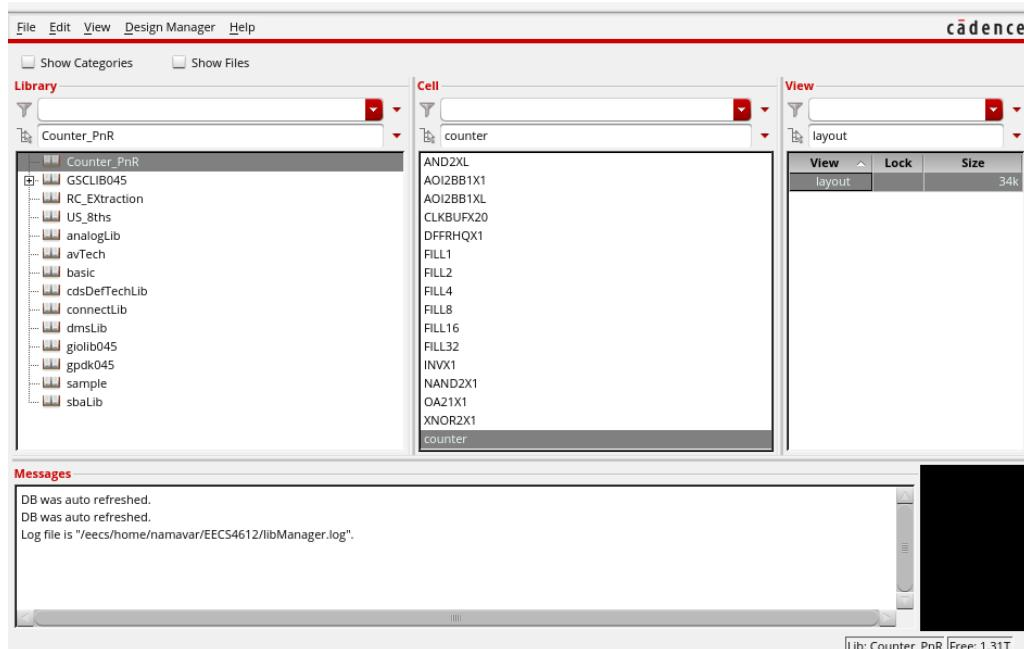

Figure 34: Library Manager displaying the imported layout cell.
3. Locate the **counter** cell and open the **layout** view, as shown in Figure 34.